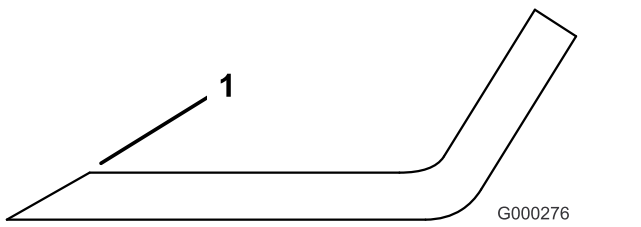

Figure 92
3. Examine the cutting edges of all of the blades and sharpen the cutting edges if they are dull or nicked (Figure 92).
Note: Sharpen only the top of the cutting edge and maintain the original cutting angle to ensure sharpness (Figure 92). The blade remains balanced if you remove the same amount of metal from both cutting edges.